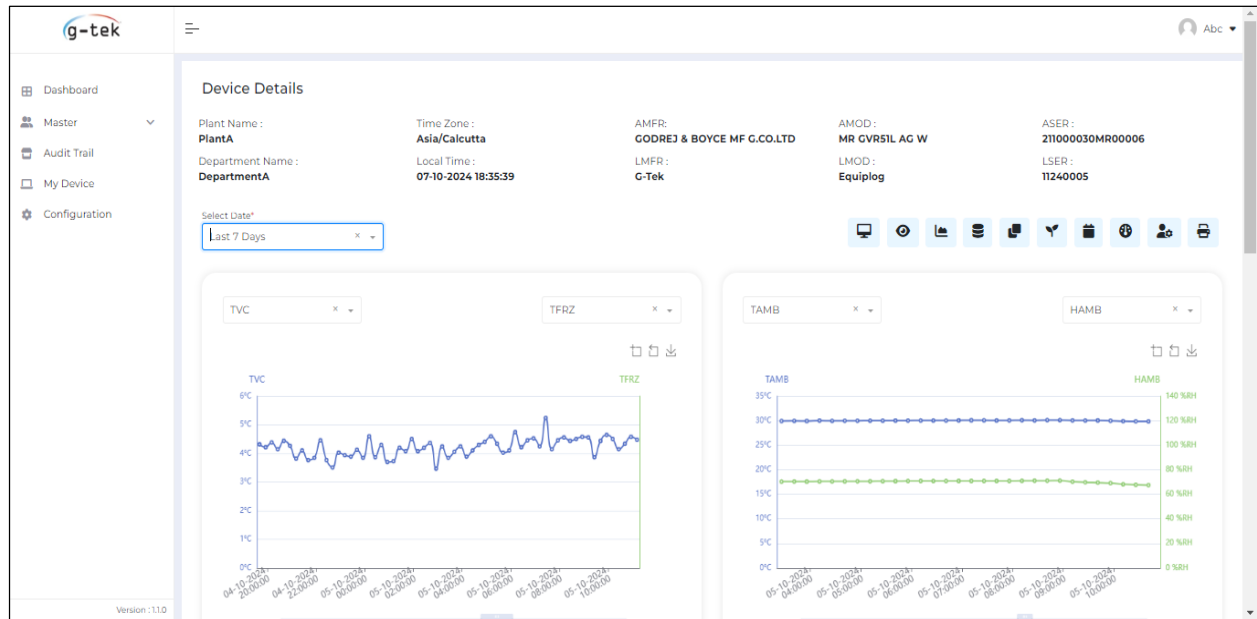

Figure 33 Gtek Cloud Graph view Dashboard for selected data logger
- Once the data is downloaded, data can be viewed on the application dashboard as shown in figure 33.